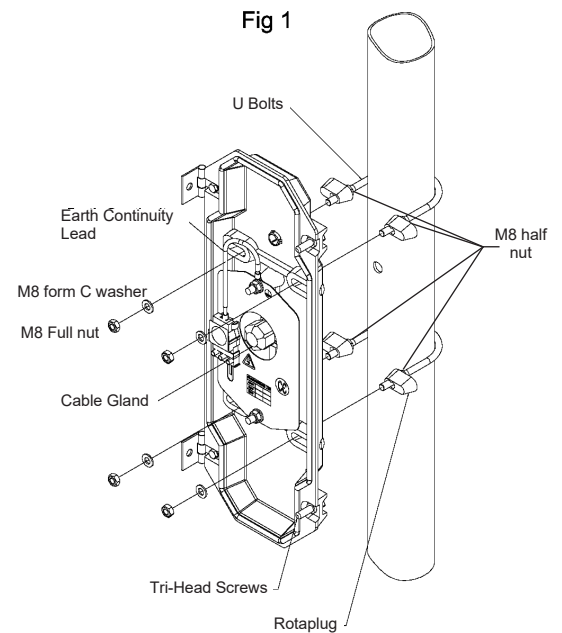

Fig 1
3. Assuming that the mounting post has already been drilled, deburred and surface protected, feed the supply cable through the supply post and into the back of the Vari-fix back door through the cable entry gland (Fig1).
5. Select the appropriate Vari-fix post fixing kit for the mounting post diameter and remove the M8 form C washers and M8 Full nuts (Fig1).
6. With the back door located in line with the post cable gland, offer one of the U-Bolts around the mounting post and penetrate the two projecting Rotaplugs into the slotted rebates in the Vari-fix back door (Fig1).
7. To achieve the correct assembly of the Vari-fix U-Bolt system, slacken the 2 No. M8 half nuts and tighten the 2 No. M8 Full nuts evenly until the 4 raised lugs on the Vari-fix firmly engage with the post diameter (Fig1).